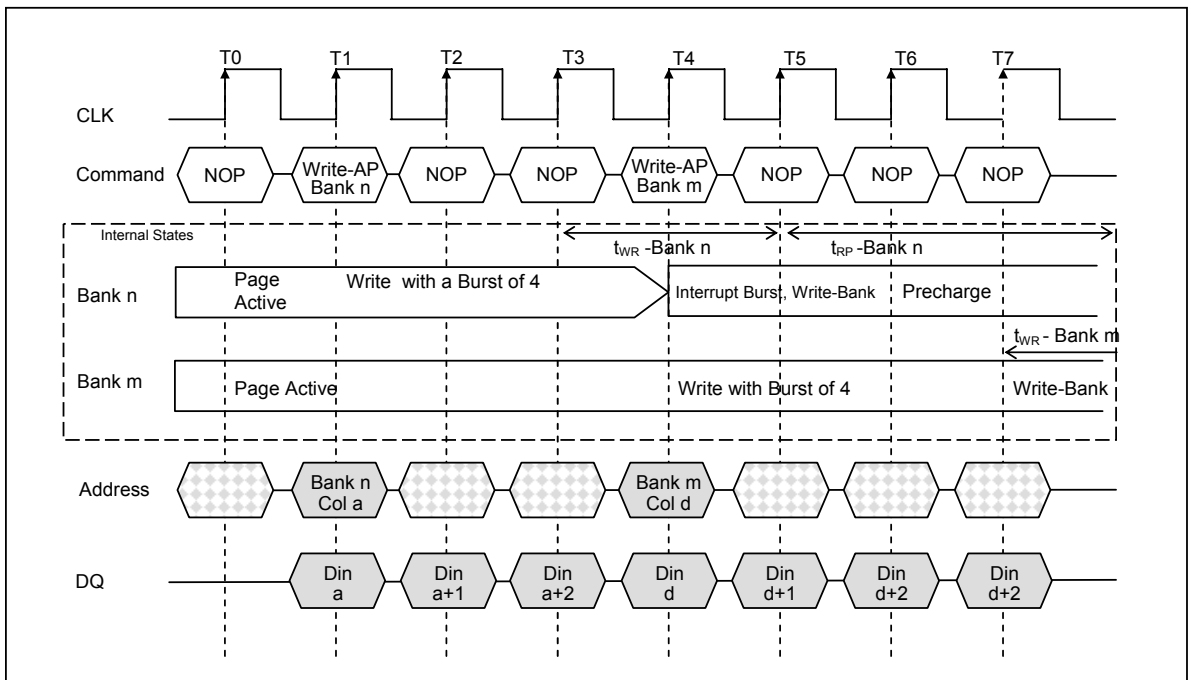

Figure 28. Write with Auto Precharge Interrupted by a Write
4. Interrupted by a Write (with or without auto Precharge): A Write to bank m will interrupt a Write on bank n when registered. The Precharge to bank n will begin after t_{WR} is met, where t_{WR} begins when the Write to bank m is registered. The latest valid data Write to bank n will be data registered one clock prior to a Write to bank m. (Figure 28.)